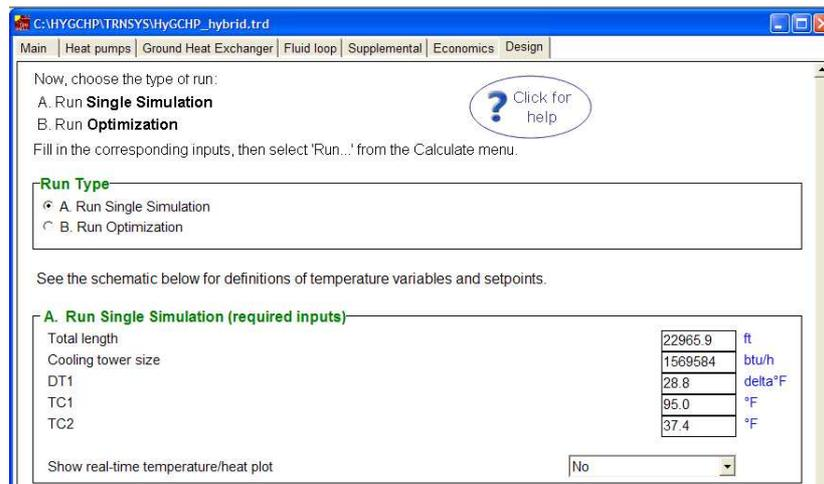

Figure 16. Design Tab (top)
9.) Finally, go to the *Design* Tab (Figure 16). On the *Design* tab, the user must now make a decision to either: